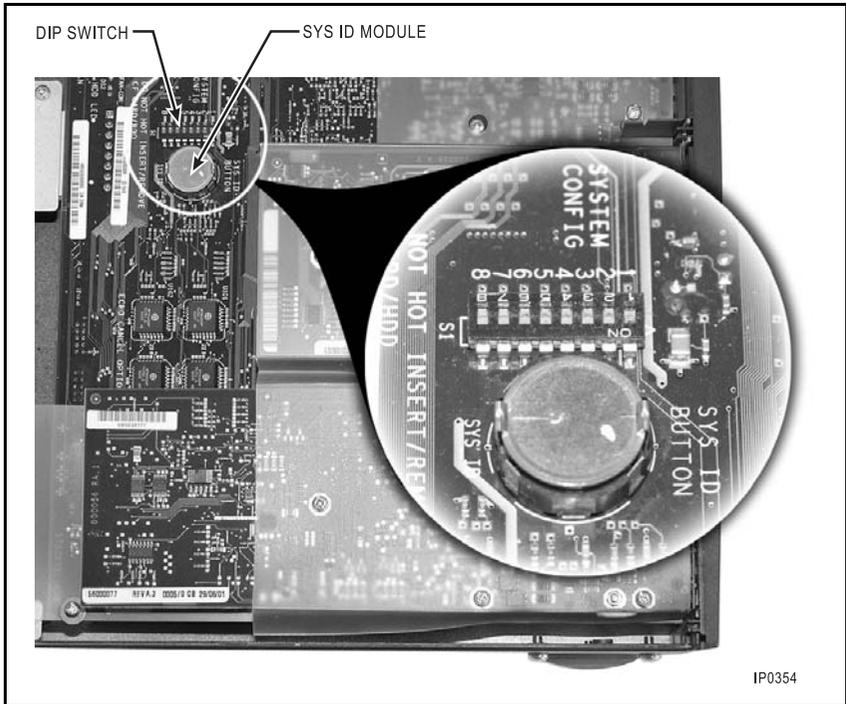

Figure 18: Location of dipswitch (S1)
9. Locate dipswitch S1. It's positioned next to the round SysID module (see Figure 18).